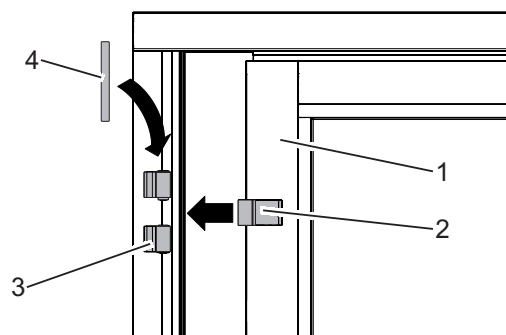
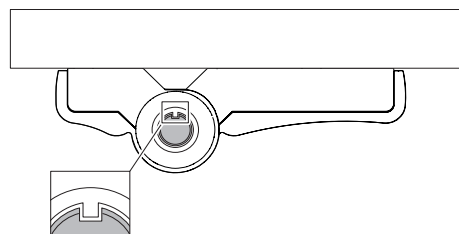

Fig. 13: Inserting the single action door into the door hinges
Fig. 14: Inserting door hinge pin
- Insert the single action door (Fig. 13/1) with the hinges (Fig. 13/2) into the door hinges (Fig. 13/3).
- Insert the door hinge pins (Fig. 13/4). Groove and lug must interlock (Fig. 14). If necessary, slightly turn the door hinge pin.